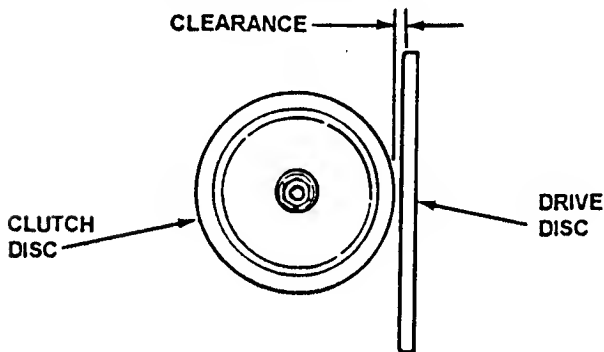

FIGURE 4.15
4. Visually inspect to make certain there is clearance between clutch disc and drive disc. See Figure 4.15.
8. Check for clearance between clutch disc and driven disc. If no clearance is visible, repeat steps 5 and 6 until clearance is visible. Refer to Figures 4.15 and 4.16.